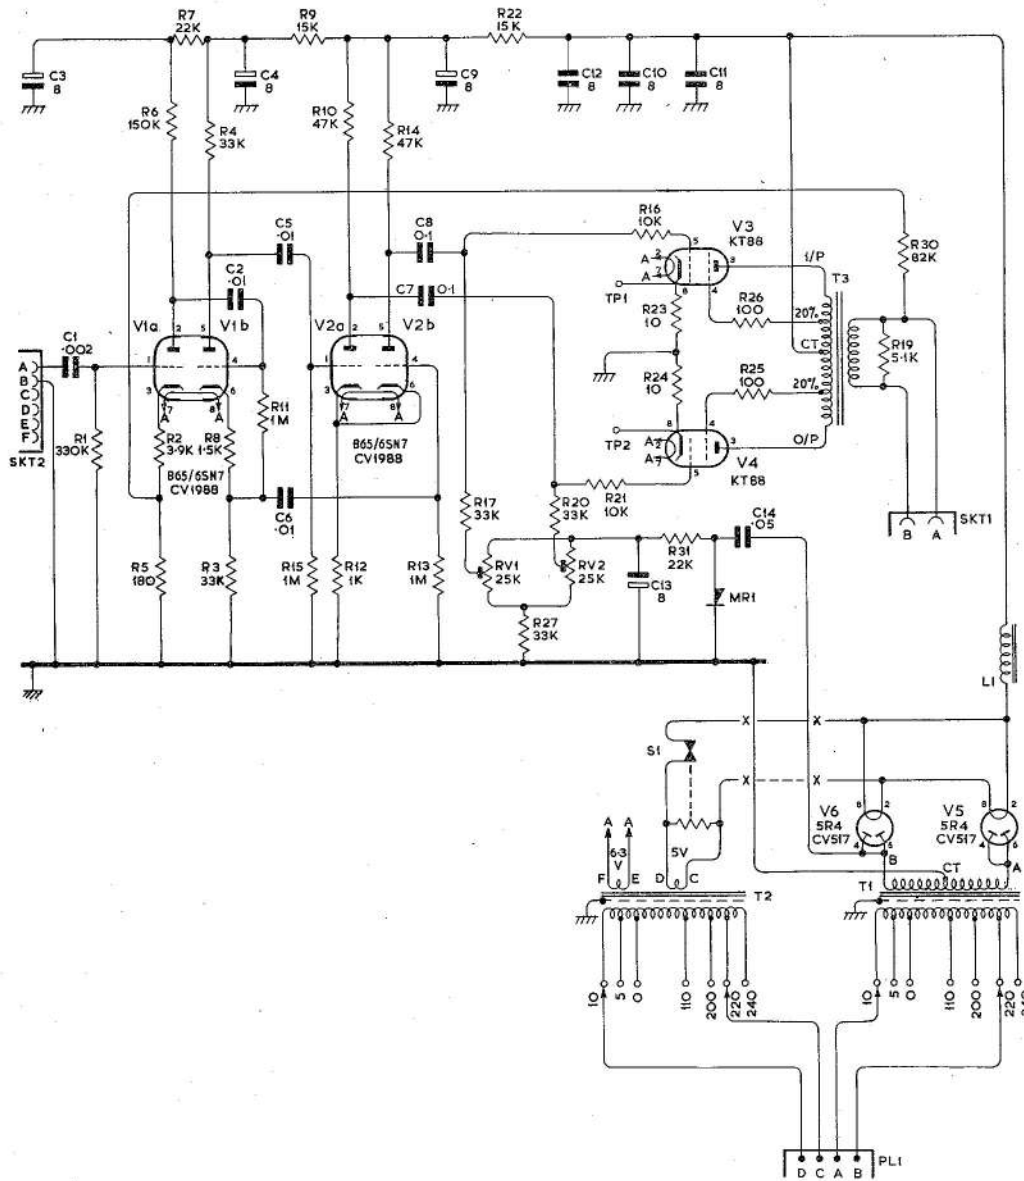

Fig. 3. Circuit diagram of power amplifier, Type QT4063
7. The 400 c/s signal, from the external signal generator, is fed from pin A of SK2, via C1, to the grid of amplifier V1a (*fig. 3*). In installations where the output of the amplifier is used to drive a synchronous motor, C1 compensates for the variable input impedance characteristic of the motor.
18. If either of the above tests yield unsatisfactory results, or if the 400 c/s power output fails when the amplifier is in operation, carry out a wiring continuity check on the amplifier. Reference to the circuit diagram, fig. 3, and the component location diagram, fig. 5, will enable each component to be checked.
Circuit voltages (fig. 3)